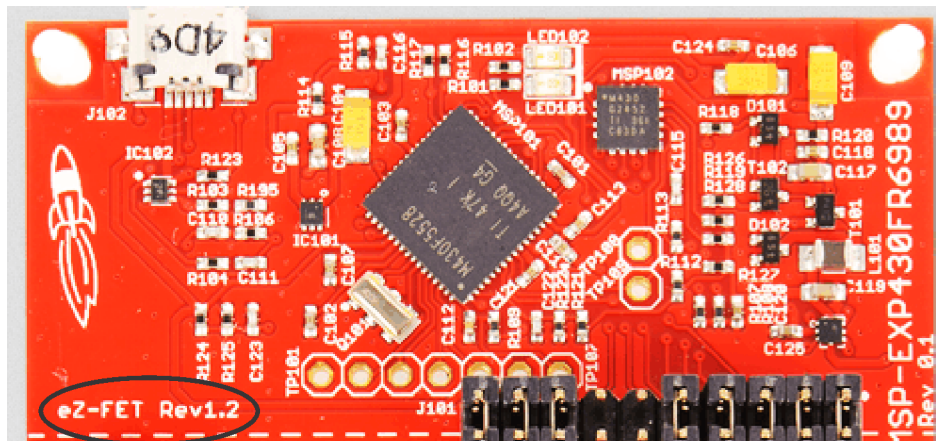
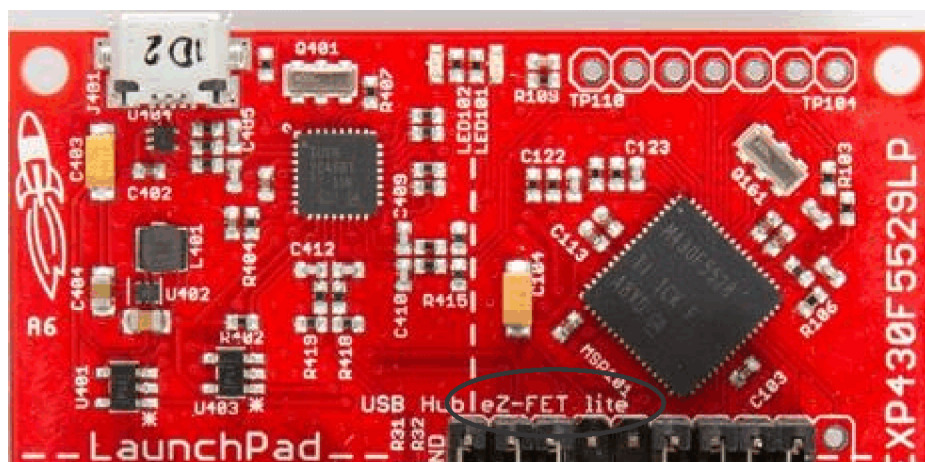

Figure 2. eZ-FET Emulation IP
Figure 3. eZ-FET Lite Emulation IP
- There is a small print on the silkscreen that indicates eZ-FET or eZ-FET Lite (see Figure 2 and Figure 3).